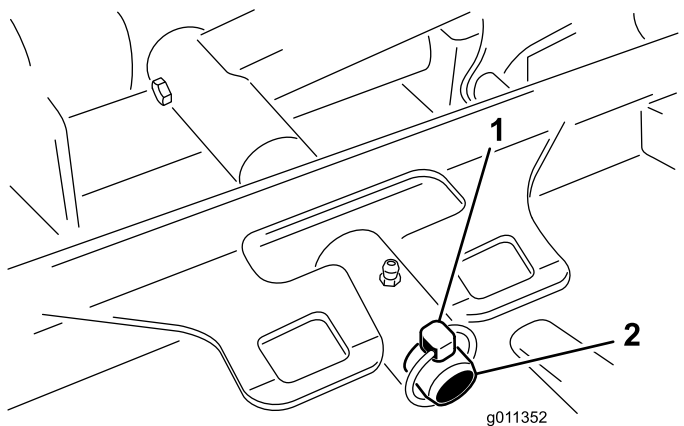

Figure 80
3. Remove the lynch pin securing the deck carrier frame to the lift arm pivot pin (Figure 80).
3. Slide deck carrier frame onto lift arm pivot pin. Secure with lynch pin (Figure 80).